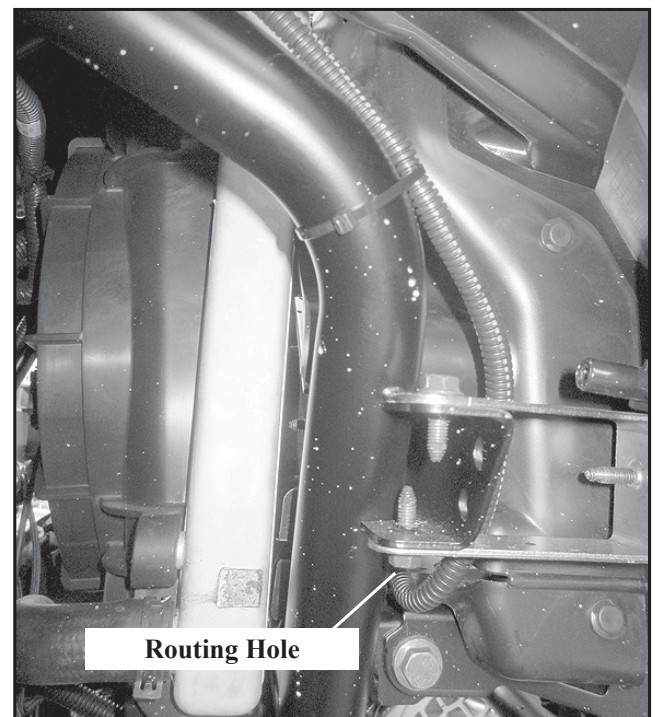

Figure 3
- b. From under the right hand fender route the cable along the top of the main frame tube passing the plug through the routing hole provided on the lower left hand side of the radiator shroud as shown in *figure 3*.